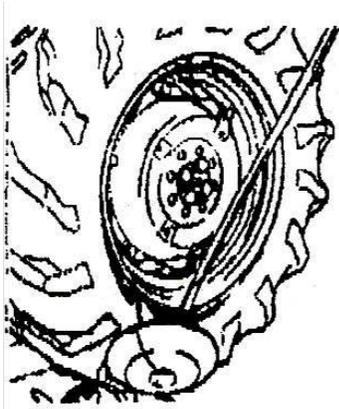

Fig2.9
- 1) Removing the outside edge of the tire. The same as 2.4.2. Hook the edge of the tire with removing and fixing hook. Insert a crown, sledge the outside edge of the tire by pressing the crown down, and lower the tire down. The distance between the head of the removing and fixing hook and the edge of the tire is about 5mm (Fig2.9). Turn the tire in the anti-clockwise direction; you can remove the outside edge of the tire.